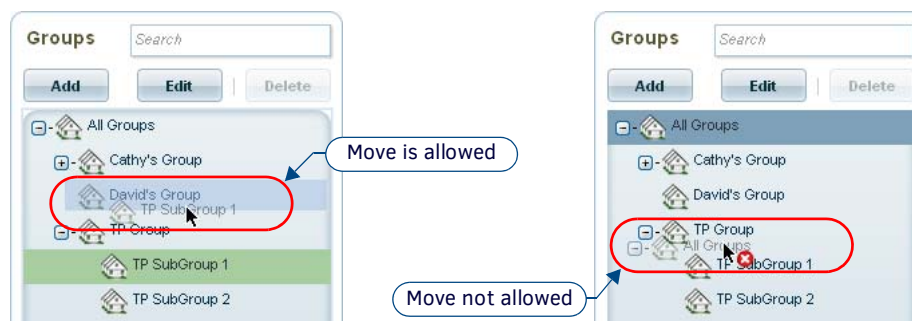

FIG. 182 Moving Location Groups via Drag-and-Drop
RMS Enterprise supports drag-and-drop for relocating Location Groups: In the *Groups* window, click on a Location Group and drag-and-drop it onto a new parent Location Group (FIG. 182).
- A small red "X" icon indicates when the drop target is not valid (see FIG. 182)